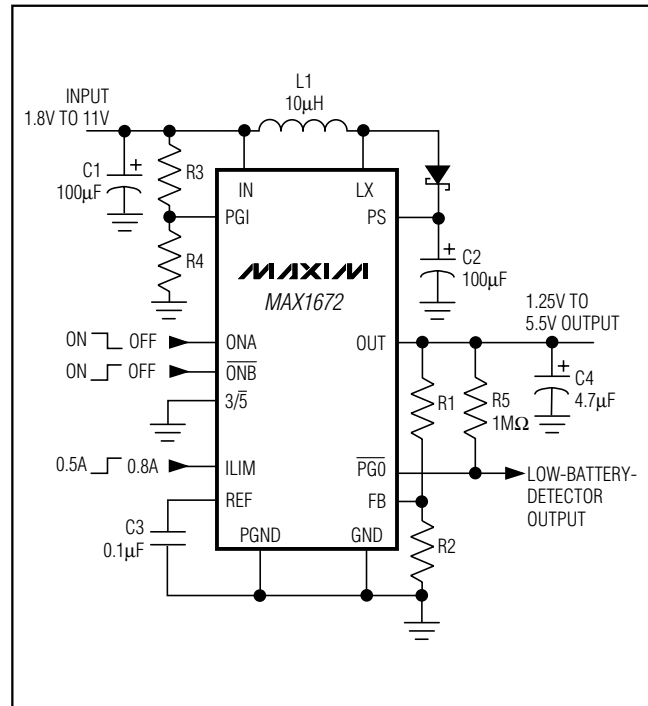

Figure 2. Adjustable Output Voltage Configuration
For fixed output voltages of 3.3V or 5V, connect  $3/\sqrt{5}$  to PS or GND and connect FB to GND (Table 2). Alternatively, adjust the output voltage from 1.25V to 5.5V by connecting two resistors, R1 and R2 (Figure 2), which form a voltage divider between OUT and FB. Choose resistor values as follows:
The MAX1672 contains a comparator for low-battery detection. If the voltage at PGI falls below  $V_{REF}$  (typically 1.25V), the open-drain comparator output ( $\overline{PGO}$ ) goes high. Hysteresis is typically 30mV. Set the low-battery detector's threshold with resistors R3 and R4 (Figure 2) using the following equation:
- Keep the IC's GND pin and the ground leads of C1 and C2 (Figure 2) less than 0.2in. (5mm) apart.